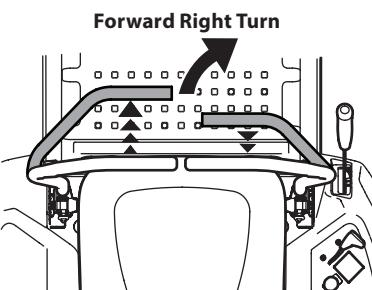

Figure 25
- To turn to the right, move the right drive control lever rearward of the left lever. See Figure 25.